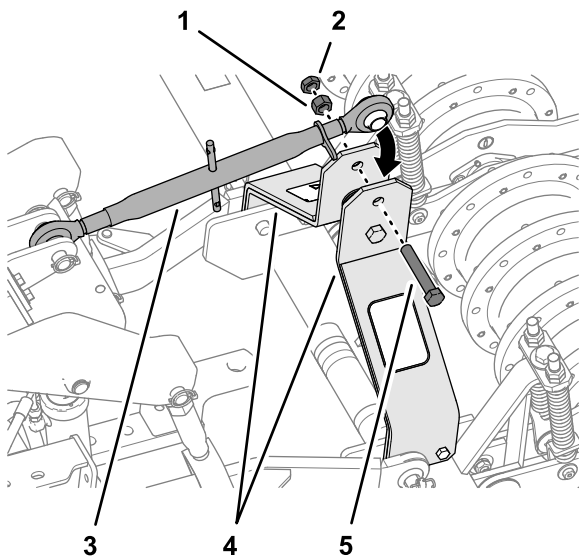

Figure 18
6. Assemble the other end of the upper 3-point link to the lift arms of the aerator (Figure 18) with the bolt (3/4 x 4 inches), nut (3/4 inch), and jam nut (3/4 inch).